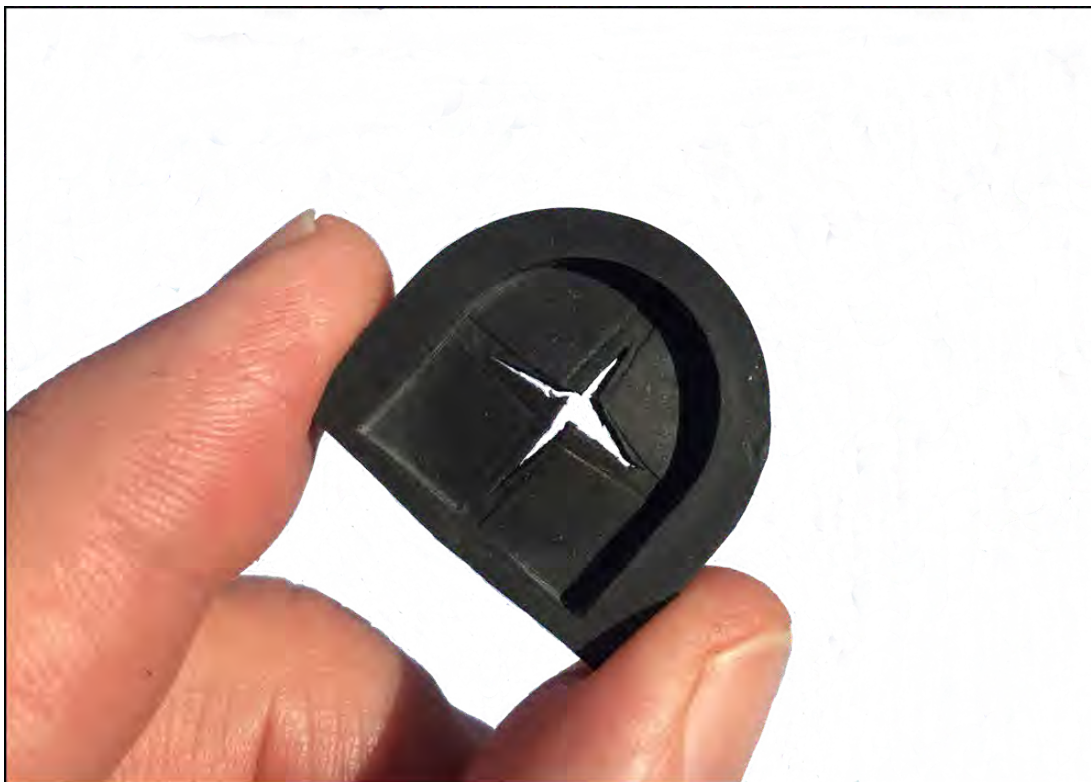

Figure 14: Rubber gasket
4. With a sharp tool such as an Xacto knife, create a small “X” pattern in the gasket (see Figure 14).